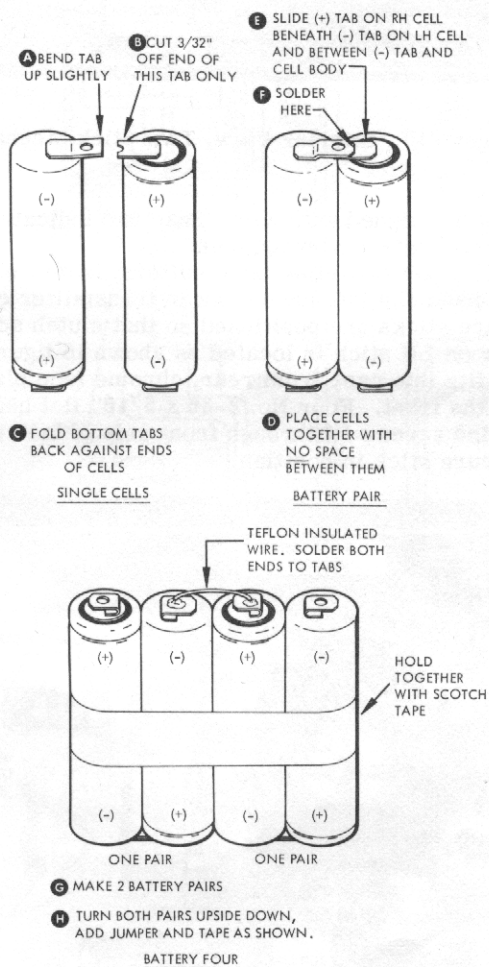

Figure 15. Making Battery Four-Cell Pack
- 138. Nickel-cadmium batteries supplied with your kit may consist either of single cells, a welded pair of cells, or a welded pack of four cells. Two packs of four cells each are required for transmitter power. Figure 15 shows construction of four-cell packs starting with single cells. Using batteries supplied, fabricate two 4-cell packs as shown. If your kit contains welded four-packs, no fabrication will be necessary.